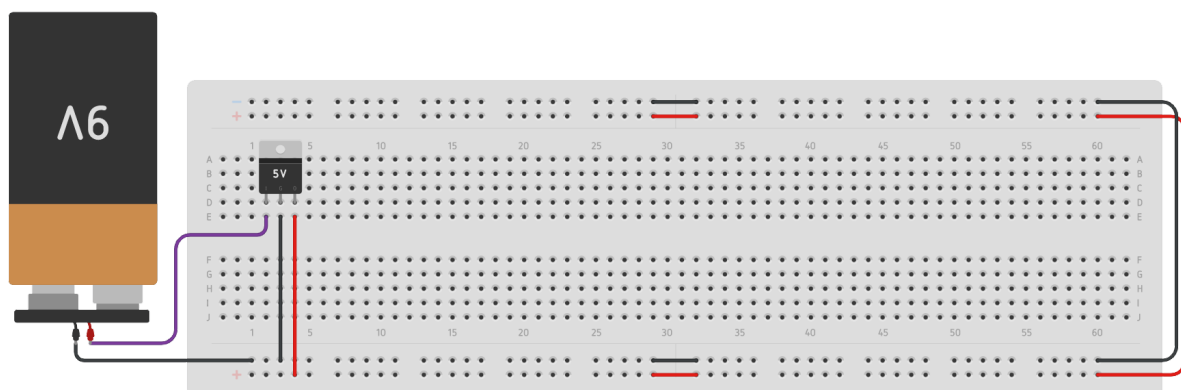
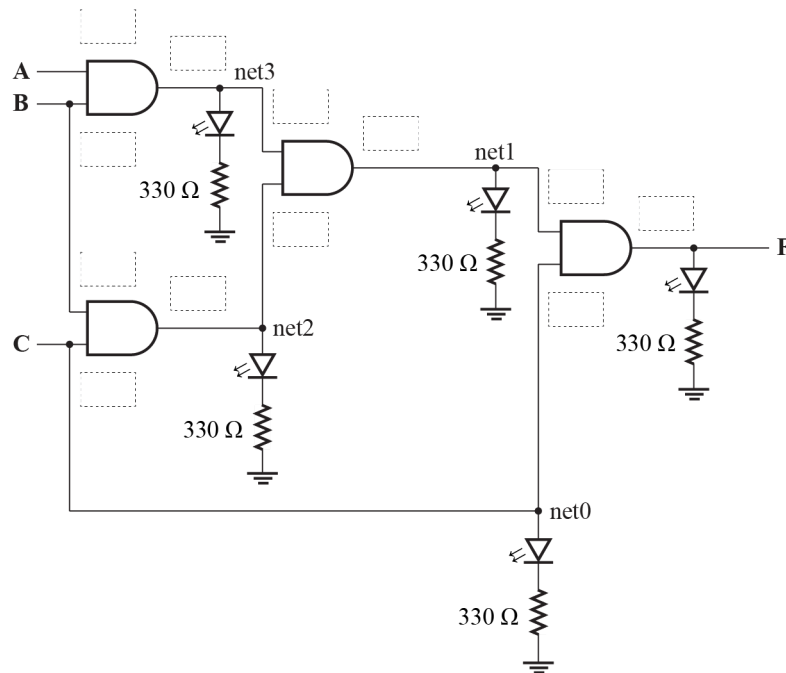

Fig. 3.5. Suggested wiring setup for using a 9 V battery alongside an LM7805 voltage regulator.
Fig. 4.3. Laboratory circuit.
A suggested wiring layout is shown in **Fig. 3.5**. More information on this voltage regulator can be obtained by searching the internet for its datasheet.
4. Build the circuit in **Fig. 4.3**, using the 9 V battery and the LM7805 voltage regulator, as discussed in the Background section of the laboratory and shown in **Fig. 3.5**. Make sure to use the correct IC type (if wired correctly, you should only need a *single* IC in order to implement all of the logic gates in the circuit). To determine locations of gates within the IC, use the 74LS08/74HC08 Quad-AND Gate IC data sheet obtained from a reputable source online. Mark the IC pin numbers that will be used (e.g., 1, 2, 3, 4, etc.) for the gates in the dotted boxes in **Fig. 4.3**. Inputs *A*, *B*, and *C* should connect to the four-position DIP switch with pull-down resistors. Intermediate signals (*nets*), as well as the final output *F*, should connect to LEDs, with which the operation of the circuit can be verified.